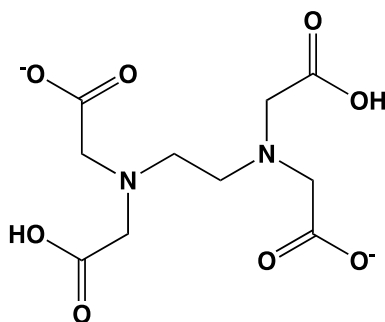

Figure 1. Structure of EDTA (H_2Y^{2-})
The structural formula of H_2Y^{2-} is depicted below (Figure 1):
5. After drawing the rectangle around your first lane, press 1. This will leave lane 1 in place, while creating a second rectangle directly on top of it (Figure 1).